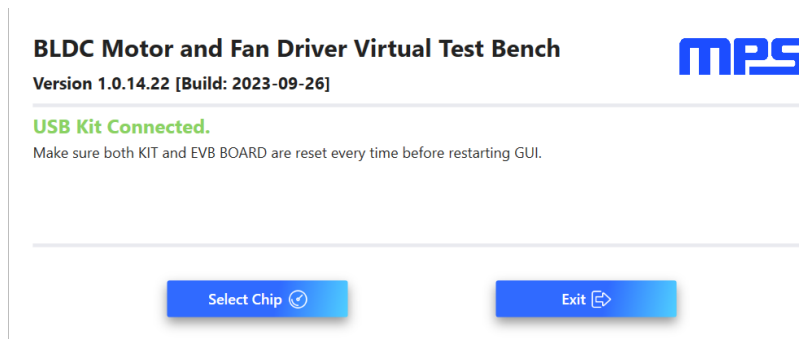

Figure 3: MPS Motor and Fan Driver Virtual Test Bench GUI
2. Double-click “MPS BLDC Virtual Bench” to launch the GUI, then click “Select Chip” (see Figure 3).